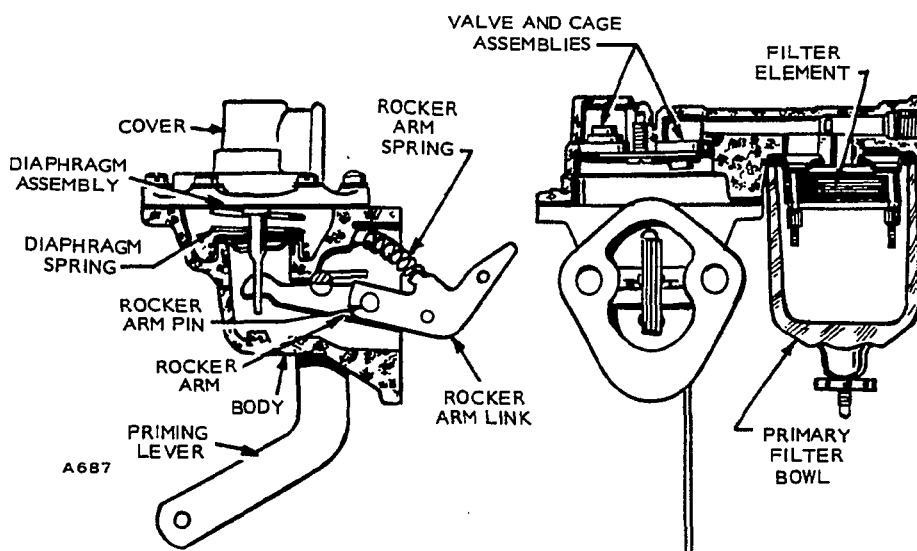

FIGURE 18. FUEL PUMP
The fuel pump (Figure 18) is located on left side of engine. If fuel does not reach carburetor, make the following checks:
1. Remove pump inlet and outlet (Figure 18). Remove two capscrews holding pump to engine and lift it off.